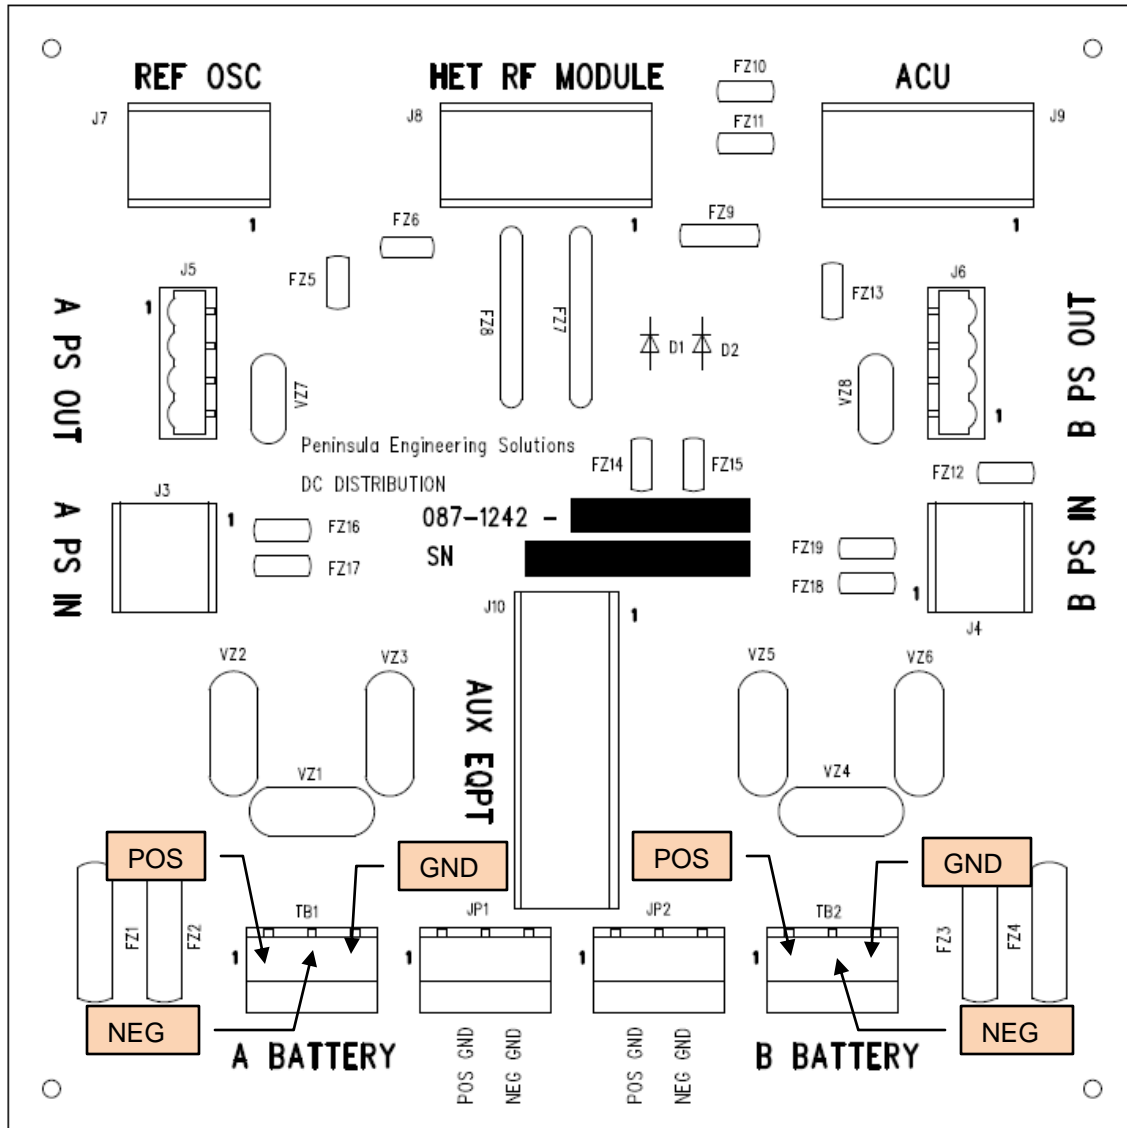

Figure 24 DC Distribution Assembly and Battery Input Blocks
2. Tables 15, 16 and 17 list the connections and jumper positions for the available configurations. Figure 10 shows the DC power connection schematic. Figure 24 shows the board layout.
1. Confirm the repeater is connected to the antenna feedlines, is grounded and that the power system has been installed and tested. Confirm that battery polarity jumpers are in place and correct. See Tables 15, 16, 17 and Figure 24.
2. When a single battery supply is used, parallel the DC inputs at the DC Power Distribution Assembly. See Tables 16, 17 and Figure 24.